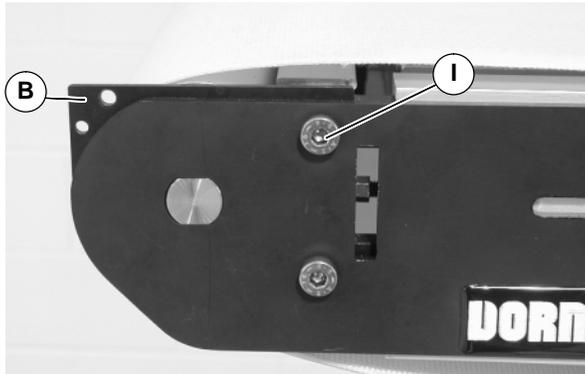

Figure 6
- Replace with new spacer plates (B of Figure 6). Insert screw (I) hand tight